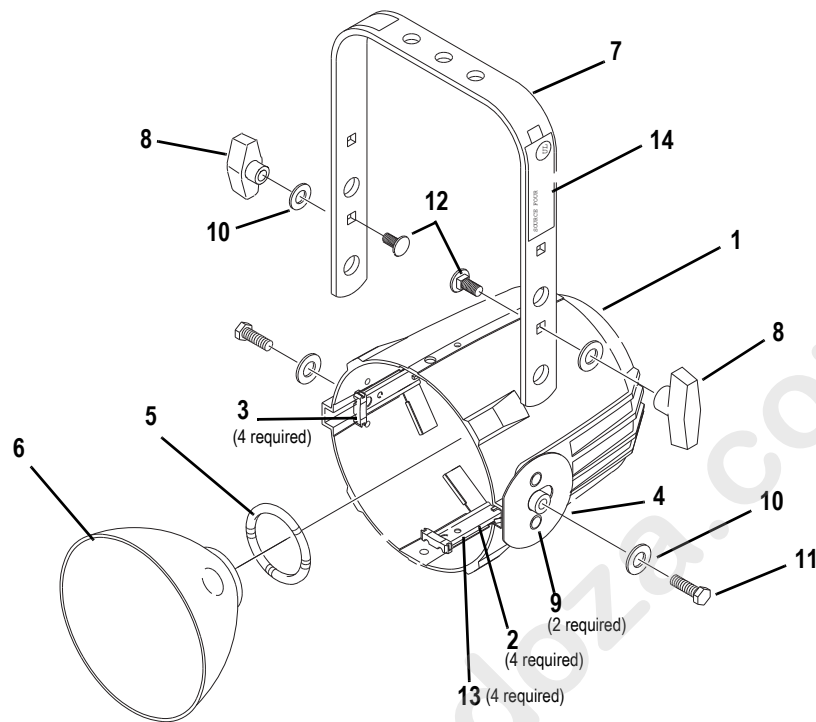

Figure 9
Note: *The following assumes all four reflector retainer clips (2) have already been riveted to the reflector housing casting (1) and the gate bushings (3) installed on the retainer clips. See Figure 9.*
- Step 1: Place the reflector housing casting (1) on a flat work surface with the large opening facing up.
- Step 2: Install the reflector support spring (5) in the circular opening at the base of the casting.
- Step 3: Insert the reflector (6) at an angle, under any three adjacent legs of the reflector's clips.